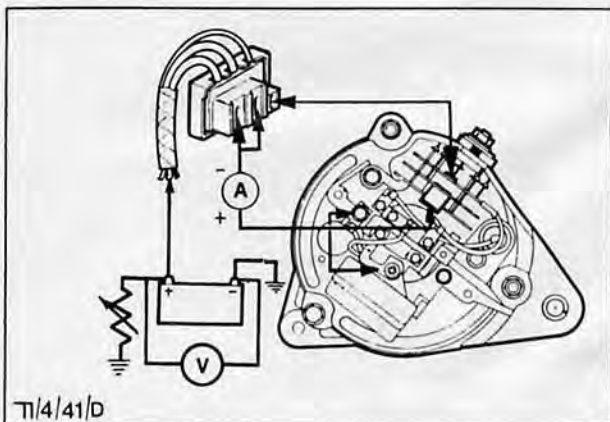

Fig. 34. Checking alternator output
6. Connect output test circuit, Fig. 34.